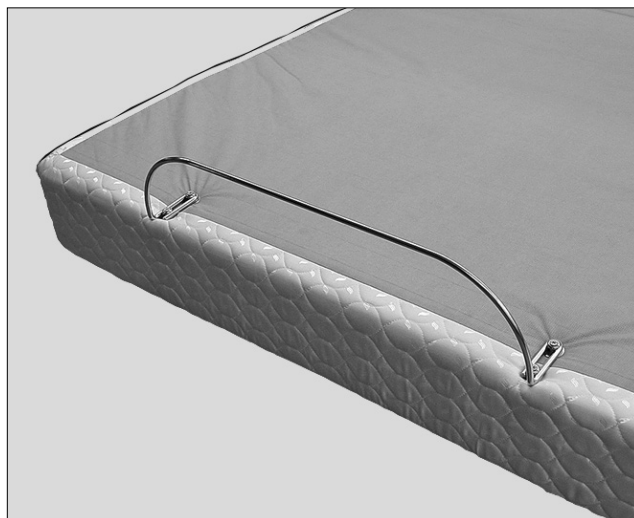

FIGURE 6: Typical mattress retainer installed.
- d. Tighten screws to complete mattress retainer installation (FIGURE 6).